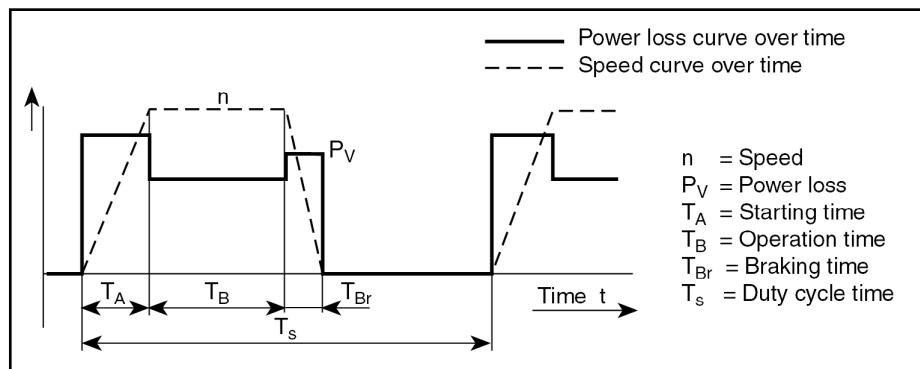

Fig.5-3: Operating mode S5 (intermittent duty with electrical braking)
- The cycles of the operation modes S4 and S5 should not exceed 1,000 cycles per hour. If higher cycle rates are necessary, the GTM gearbox must be derated accordingly (see Fig. 5-3).
Are more than 1,000 cycles per hour during operation of the gearbox necessary, the technical data have to be reduced by a factor (see Fig. 5-3).